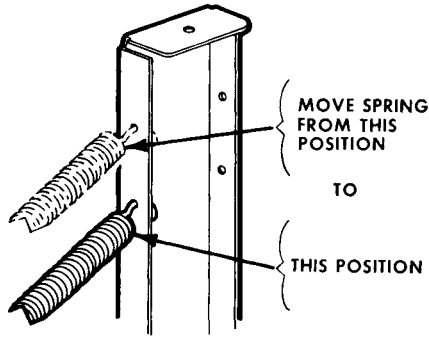

Figure 2 - Connect Springs in Second Hole
The correction for this problem is to install the WD1X5425 link kit. These links are shorter than the links on the dishwasher. This may seem like the wrong way to go to lessen spring tension but when the springs are moved to the location shown in Figure 2, the door will operate properly. Proceed as follows:
4. Reconnect springs to pedestal legs, connecting them to second hole from the top. See Figure 2.